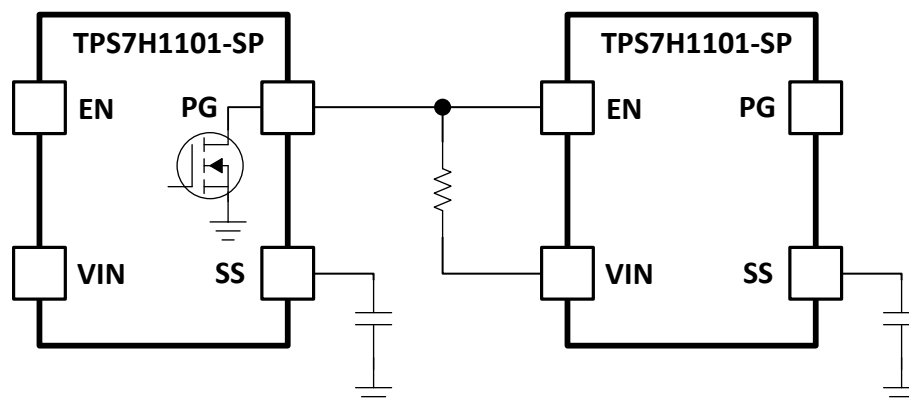

Figure 9. Sequencing LDOs with Power Good
8.3.2 Power Good (PG)
Power Good terminal (9) is an open-drain connection and can be used to sequence multiple LDOs. Figure 9 shows typical connection for $V_{IN} > 3.5\text{ V}$. The PG terminal will be pulled low until the output voltage reaches 90% of its maximum level. At that point, the PG pin will be pulled up. Since the PG pin is open drain, it can be pulled up to any voltage as long as it does not exceed the absolute max of 7.5 V listed in the Electrical Characteristics table.